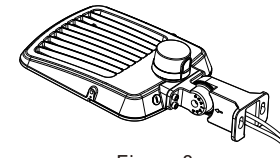

Figure 8
Step 2: Install the bracket on the fixture (Figure 8).